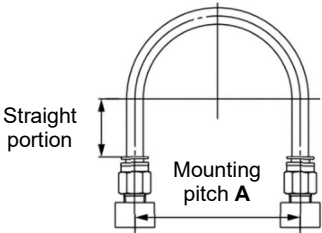

Figure 1.
- When connecting tubes using One-touch fittings, provide some spare tube length shown in Fig. 1.